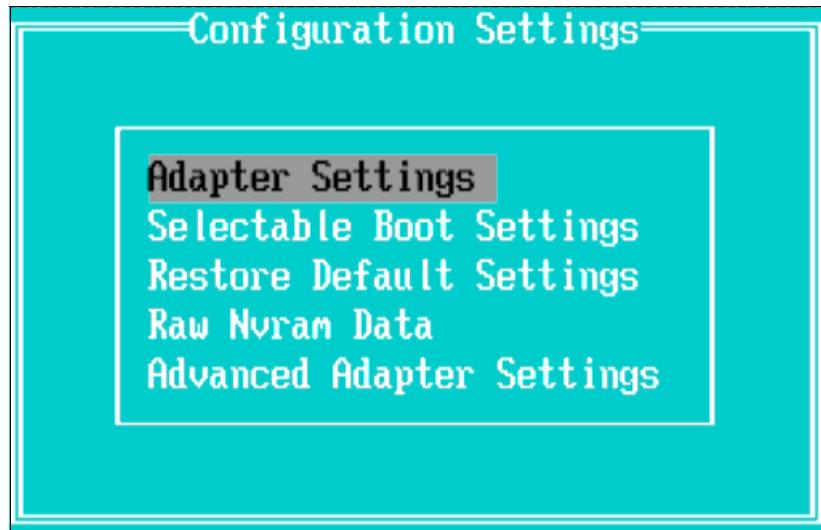

Figure 18-25 Adapter Settings panel
5. Select **Adapter Settings** and press Enter as shown in Figure 18-25.